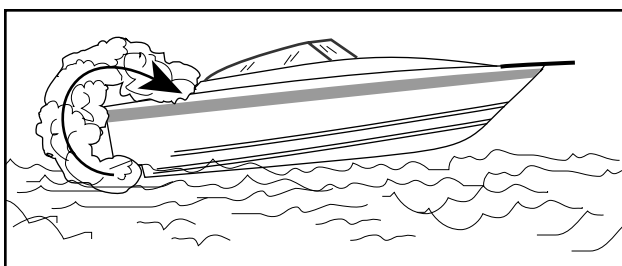

FIGURE 2.8 HIGH BOW ANGLE
**BACKDRAFTING Station Wagon Effect (Inefficient Trim Angle):** Under certain conditions, moving air currents can direct carbon monoxide fumes into the boat (Figure 2.8). These fumes can accumulate to dangerous levels without proper airflow. Provide adequate ventilation, redistribute the load or bring boat out of high bow angle.